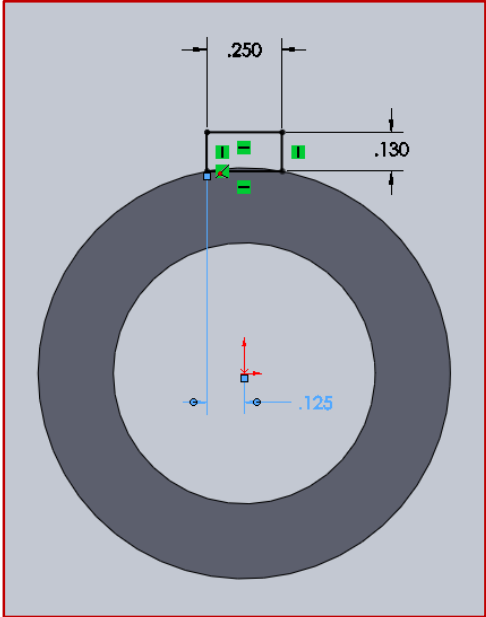

Figure 6.1 – Sketch for the Wheel Bump
Step 36: Use the **Rectangle** tool to sketch Figure 6.1.
Step 37: Add the dimensions in Figure 6.1 to fully define the sketch.